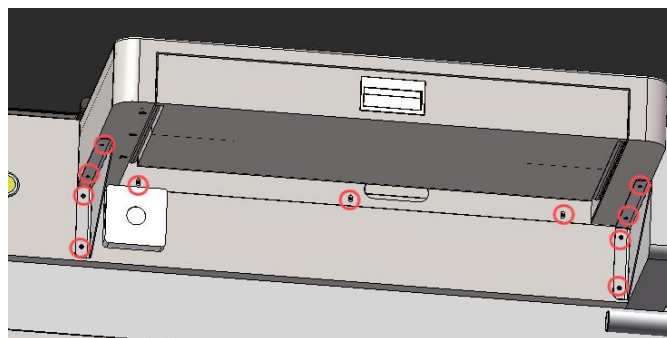

Fig. 25 Position of fixing screws of the front keyboard holder
Step 4: Install the reinforced support of the rear keyboard holder and then install the rear keyboard holder. Figure 25 shows the position of the fixing screws (M4 screws).